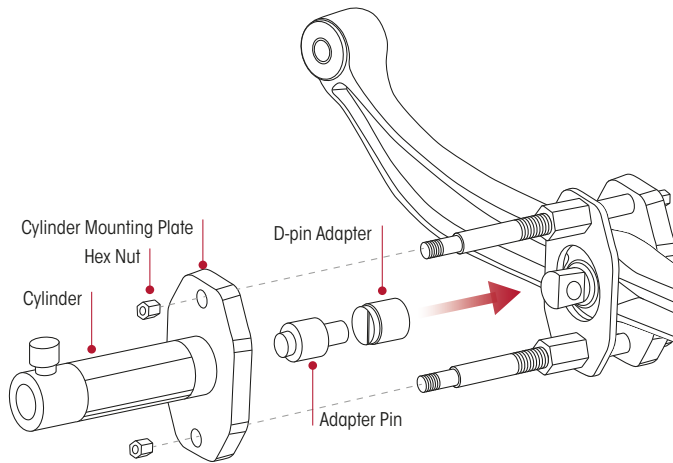

Figure 71: Attach Cylinder to Mounting Plate
7. Thread the cylinder into the cylinder mounting plate. Refer Figure 71.